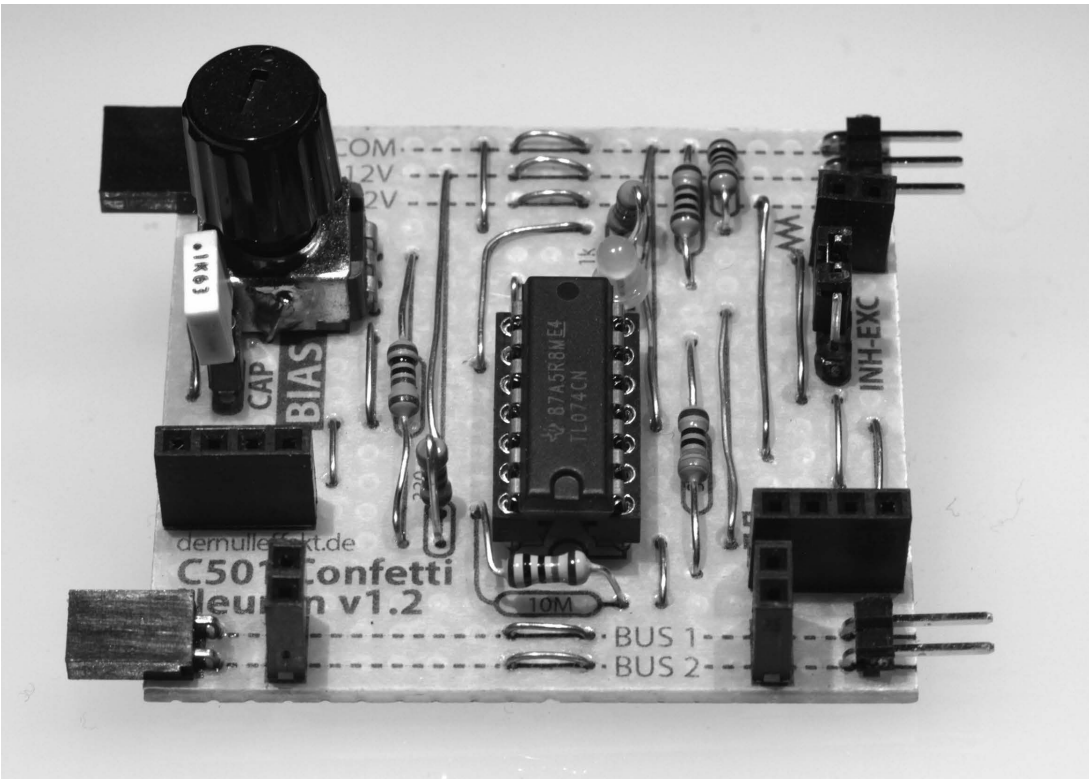

Figure 31.3 Confetti Neuron with components soldered into place.
- Put in the components and solder them (Figure 31.3).